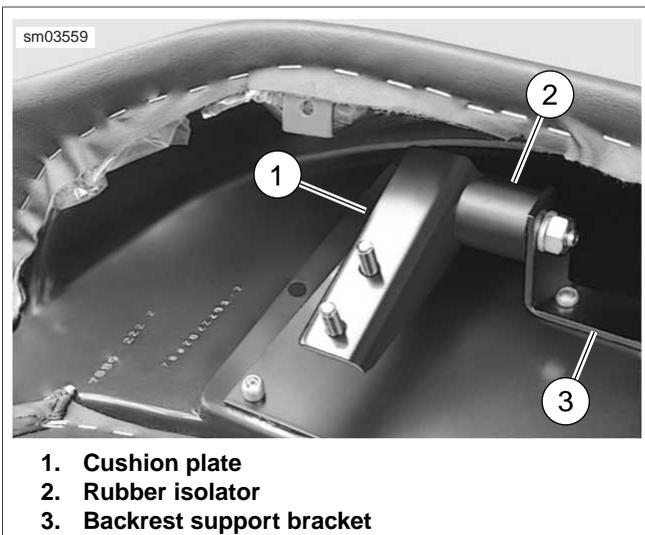

Figure 2-130. Center Isolator
2. **Center isolator:** Remove flange nut with lockwasher to release cushion plate from rubber isolator stud. Remove flange nut with lockwasher to release other stud from backrest support bracket. See Figure 2-130.
1. **Center isolator:** Insert stud of **new** rubber isolator into hole of backrest support bracket and install lockwasher and flange nut. Tighten flange nut until snug. Install cushion plate, lockwasher and flange nut on other stud. Orient cushion plate so that it is parallel to backrest and then finger tighten flange nut only. See Figure 2-130.